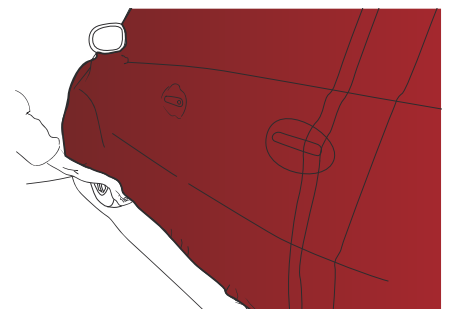

Fig.22
- › Once the door handles are done, tension the film down to the bottom of the vehicle body (FIG. 22).